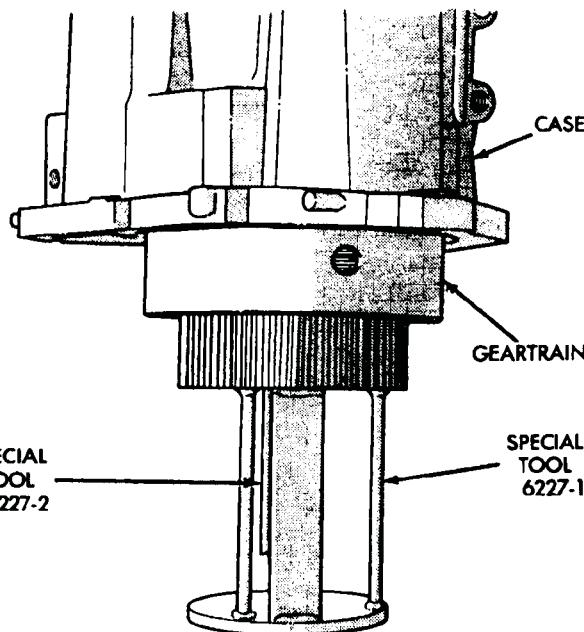

Fig. 75 Positioning Overdrive Case On Geartrain
- (19) Support geartrain on Tool 6227-1 (Fig. 75). Be sure tool is securely seated in clutch hub.
- (20) Install overdrive unit case over geartrain (Fig. 75).
- (21) Expand front bearing locating ring with snap ring pliers. Then slide case downward until locating ring locks in bearing groove and release snap ring.